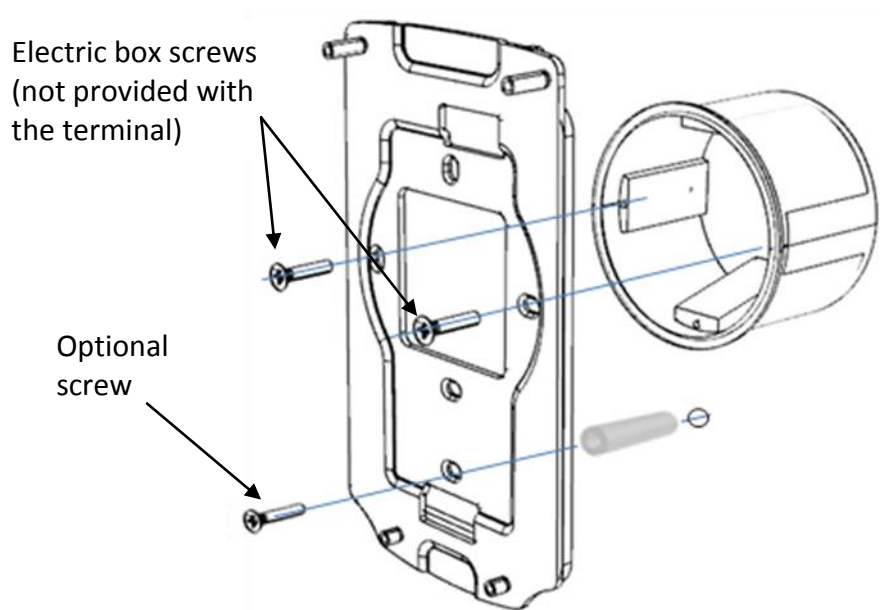

Figure 14: Wall plate fixation
1. Confirm the presence of the electric box ($\varnothing$ 65 mm for a standard box) in the wall or add it if not present. Remove the two horizontal screws from the electric box (see Figure 14): these screws will be used for terminal's body fixation.
3. Drill in the wall one hole with a rawplug diameter and fit it with the rawplug (see Figure 14). The hole centre can be located by placing the wall plate on the wall with its horizontal mounting holes facing the ones of the electric box.
4. Bring the wall plate close to the wall, opposite the 2 holes on the electric box and the rawplug (see Figure 14).
5. Fix the wall plate with the one screw $\varnothing$ 3.5mm max and length 30mm and the 2 screws coming from the electric box (see Figure 14).